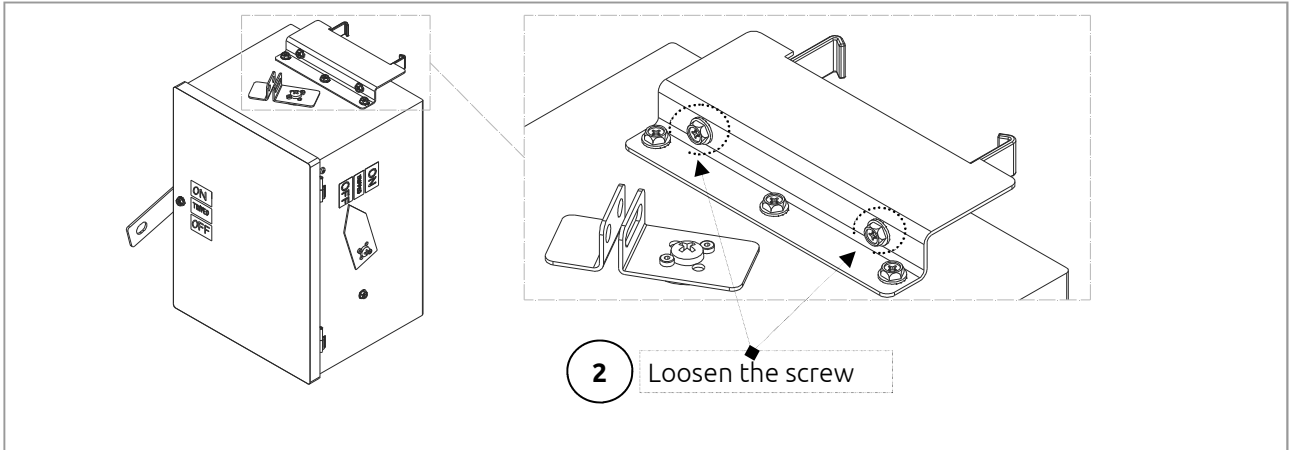

Figure 17.1
2. Loosen the screw on the top side of the Plug In Unit in Figure 17.1